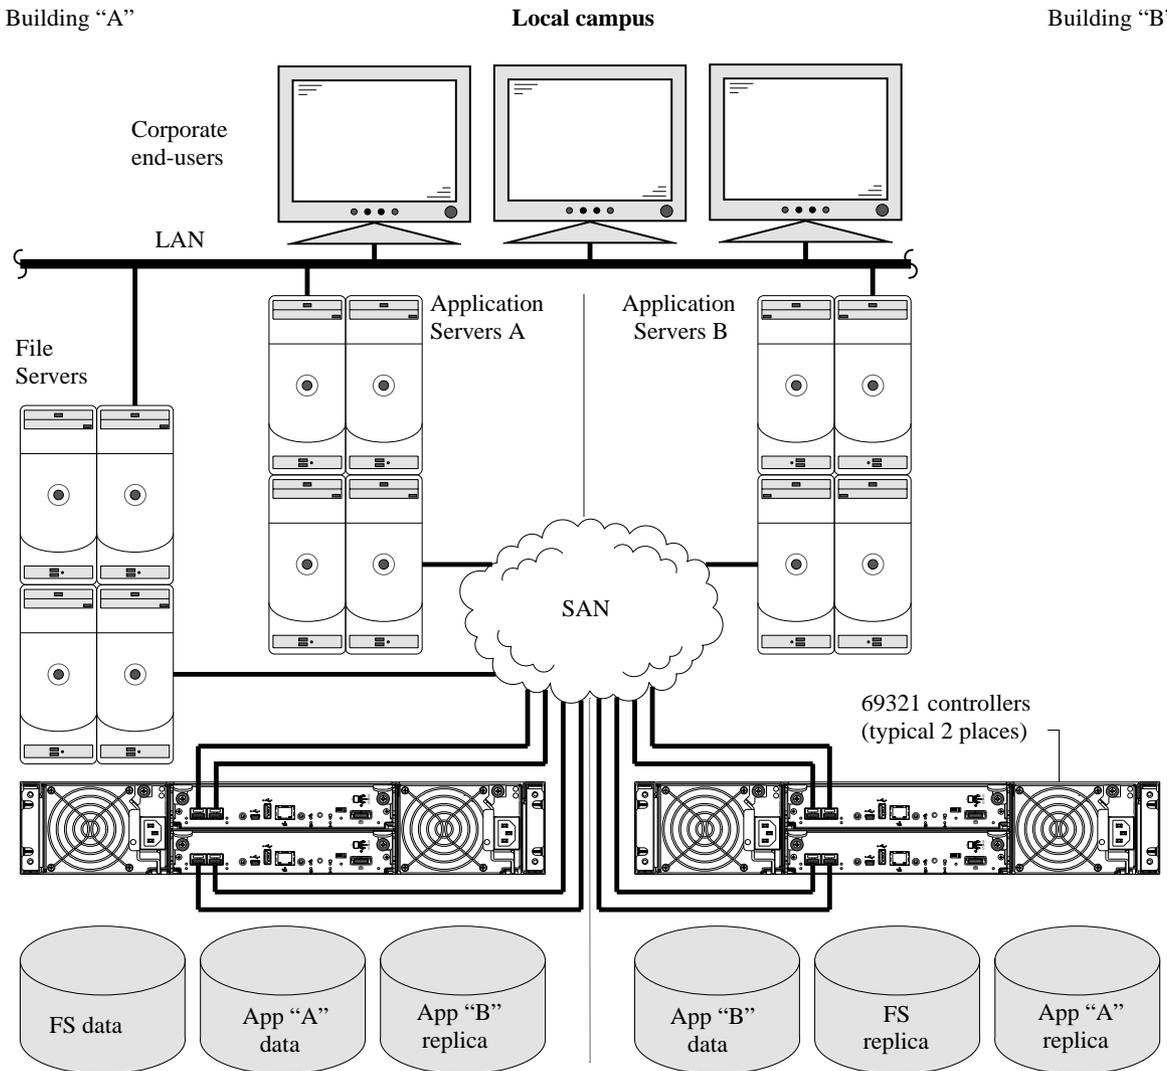

Figure 21 Connecting two systems for AssuredRemote — 693x1 example
- Two FC-only systems, each with both ports on each of the four controller modules connected to an FC switch (see Figure 21 on page 43).